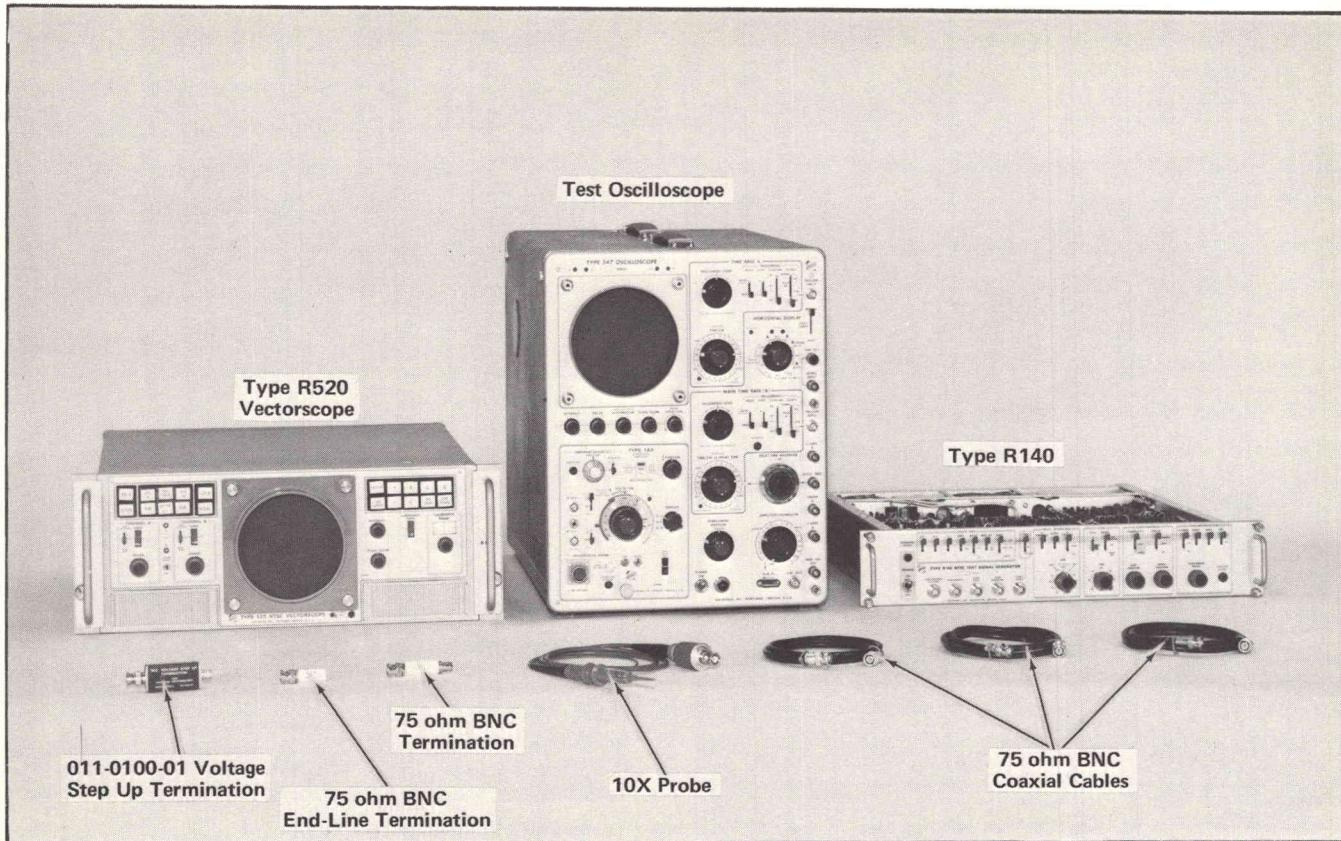

Fig. 5-13. Test equipment required for steps 12 through 17.
a. Test equipment is shown in Fig. 5-13.